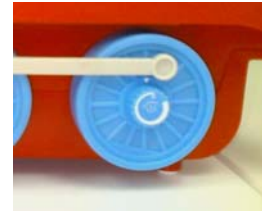

Fig. 10
8. Use the humidity output regulator control knob located at right wheel to adjust the intensity of the vapor output. Turning the knob clockwise will increase the moisture output, turning the knob counterclockwise will reduce the moisture output. (see Fig. 10)